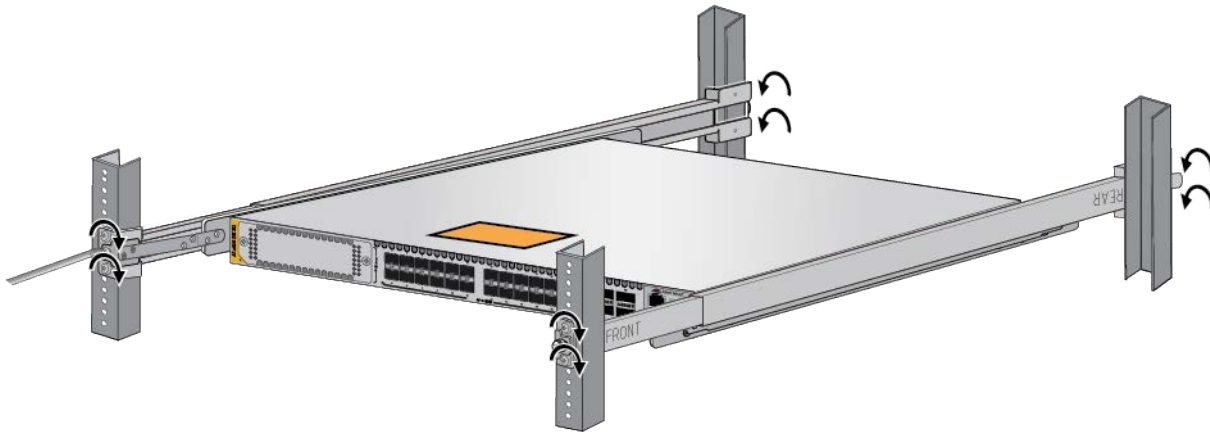

Figure 124. Tightening the Screws on the Outer Rails
5. Finish tightening the eight screws on the outer rails to secure the rails to the equipment rack. See Figure 124.